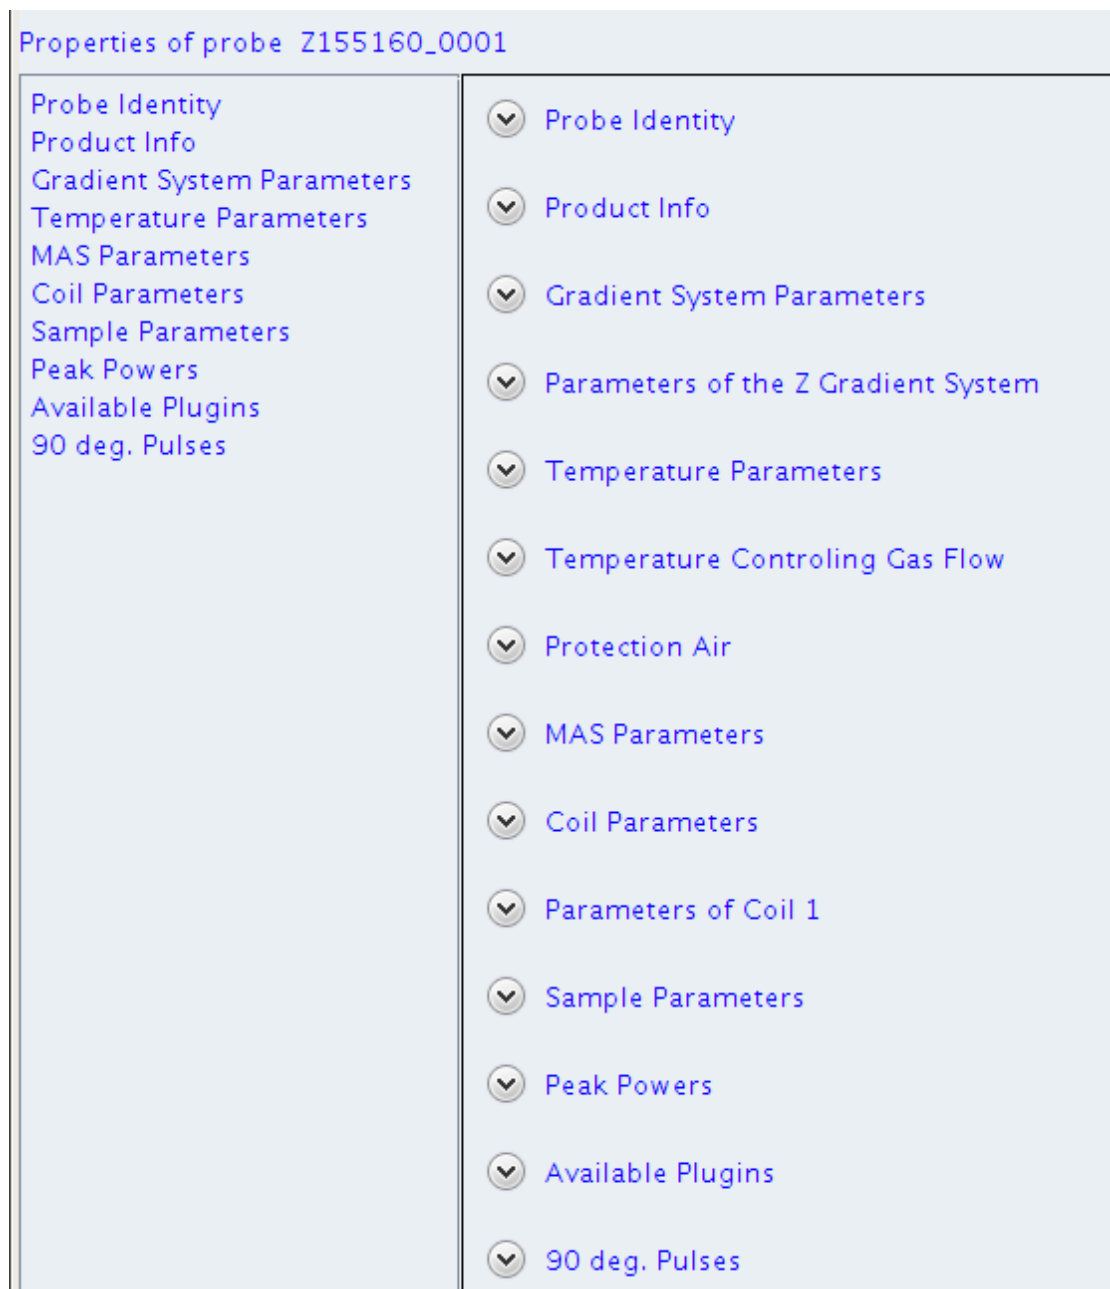
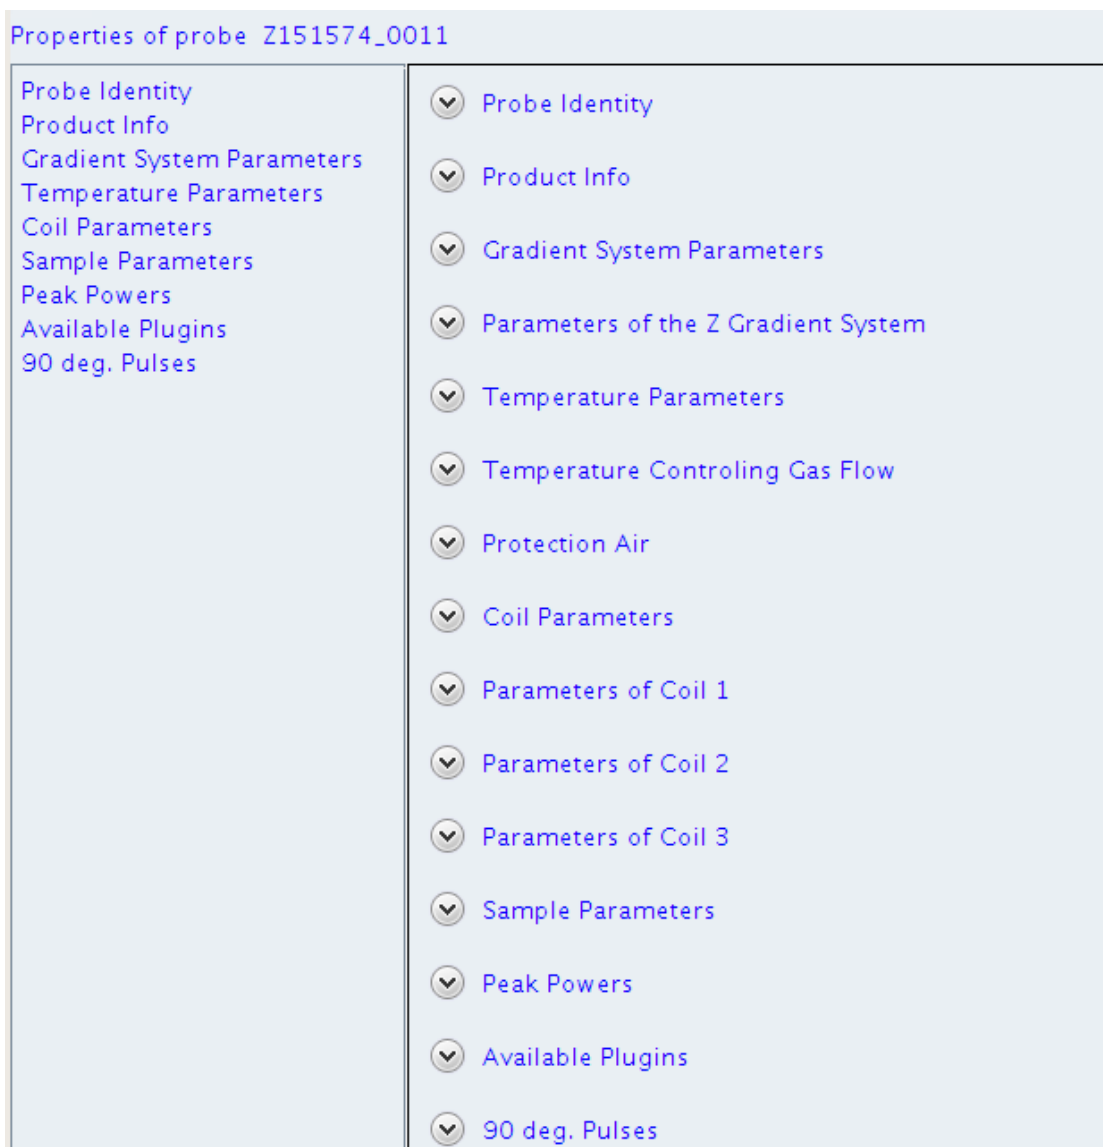

Figure 7.2: Window showing the properties of the selected probe.
Figure 7.3: TopSpin **Properties of probe** window for another probe type.
- The shown properties in [Figure 7.2 \[▶ 30\]](#) and [Figure 7.3 \[▶ 31\]](#) vary depending on the probe type.